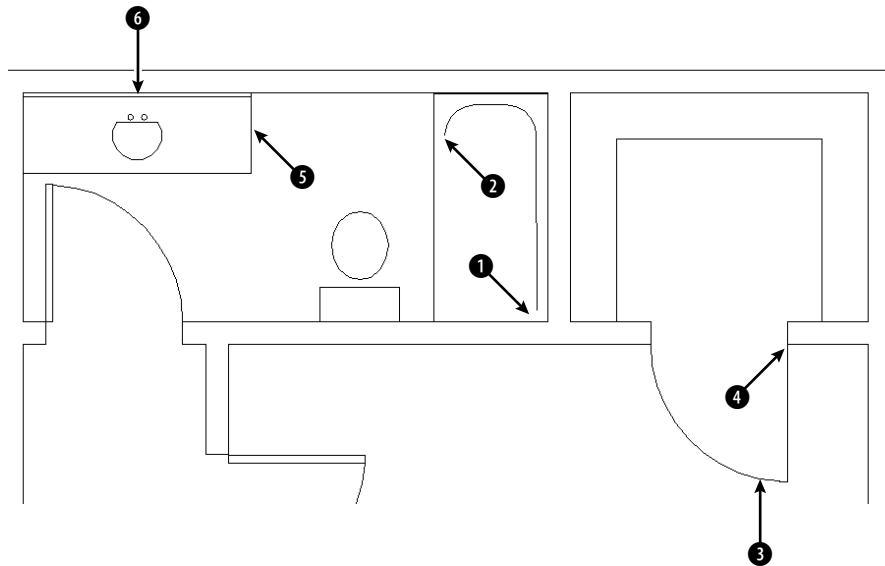

Figure 4-31: Using point filters to specify the start of a line.
4. At the Specify first point: prompt, pick the endpoint at ❶ in Figure 4-31.
5. At the Specify next point or [Undo]: prompt, type `.x ↵`. At the of prompt, pick the endpoint at ❷ in Figure 4-31.
6. You see the (need YZ): prompt. (Because you're drawing in 2D, you can ignore the Z.) Choose the endpoint at ❶ in Figure 4-31. AutoCAD or AutoCAD LT draws the line segment to the point defined by the X coordinate of ❷ and the Y coordinate of ❶.
7. At the Specify next point or [Undo]: prompt, pick the endpoint at ❷. End the LINE command.
8. Start the LINE command again. At the Specify first point: prompt, pick the endpoint at ❸. If necessary, press Tab until you see the arc highlighted so you know you have the endpoint of the arc.
9. At the Specify next point or [Undo]: prompt, type `.y ↵`. At the of prompt, pick the endpoint at ❹ in Figure 4-31.